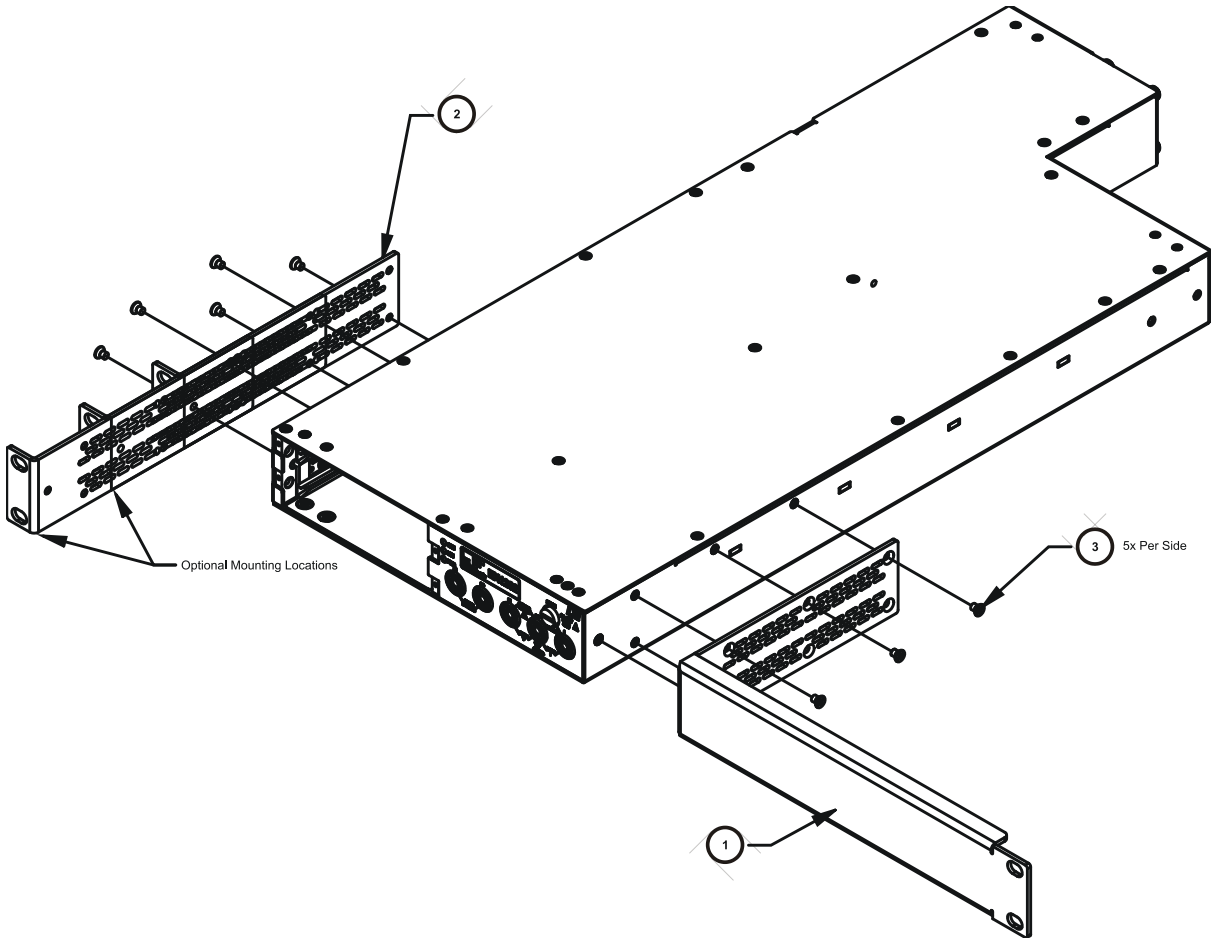

FIGURE 2-4: RACKMOUNT EARS INSTALLATION DIAGRAM (EXPLODED FRONT VIEW)
- 2) Using a #2 Phillips screwdriver, install the rack ears (P/N: 41-0482-009 and 41-0493-011) on the front of the EX1202A using five (5) 6-32 x 3/8" flat head Phillips stainless steel screws (P/N: 37-0114-025) per rack ear. Note that the "Optional Mounting Locations" in Figure 2-4 allow the EX1202A to be installed in a rack either flush or recessed.